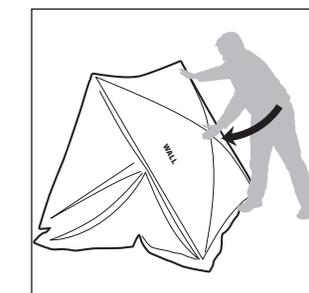

FIGURE 6
2. Using your hand, push the center hub in on roof and walls until they collapse inward. Shelter will fall to the ice on its own. **SEE FIGURES 6 & 7.**